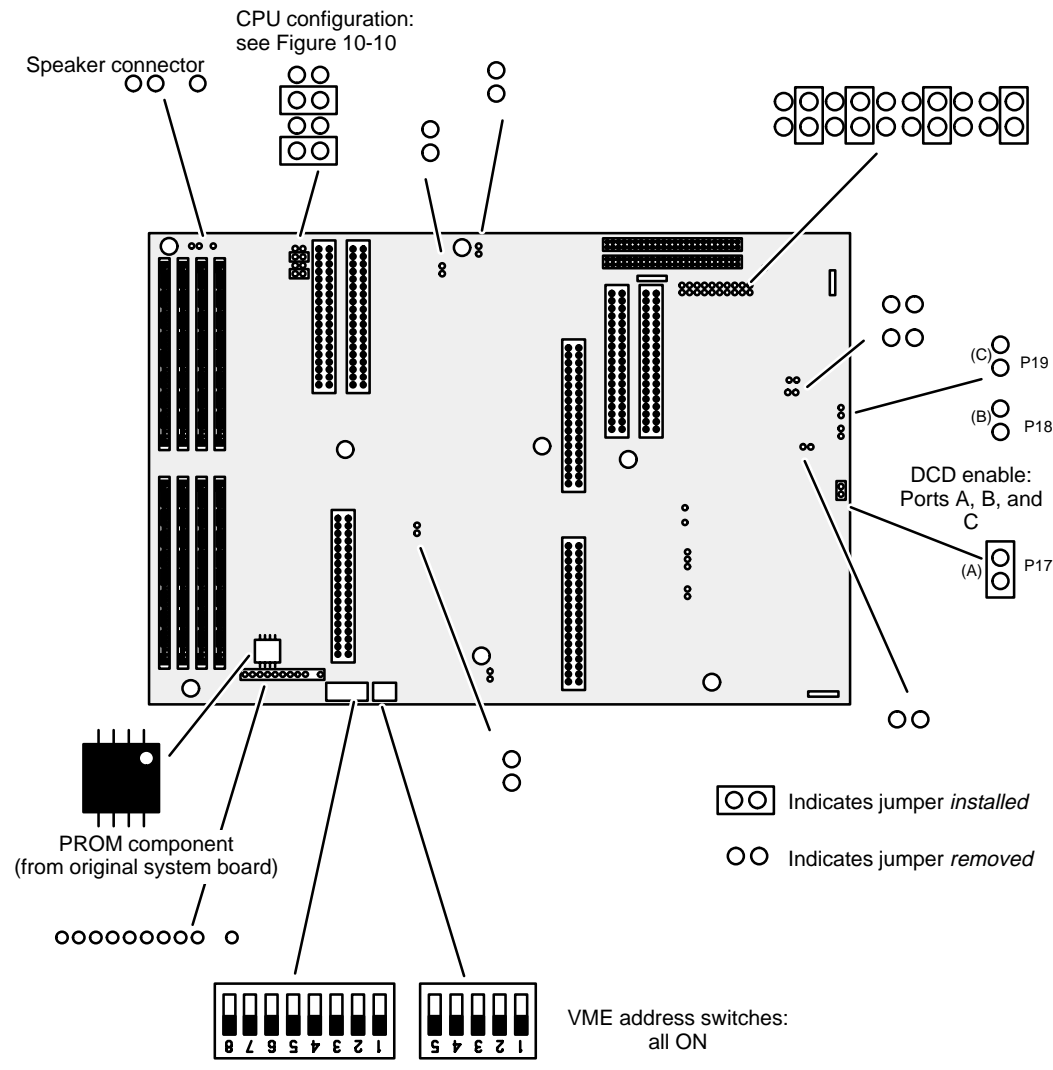

Figure 10-11 AViiON 530 and 4600 Series System Board
5. Verify that the switches and jumpers indicated in Figure 10-11 are set as shown.